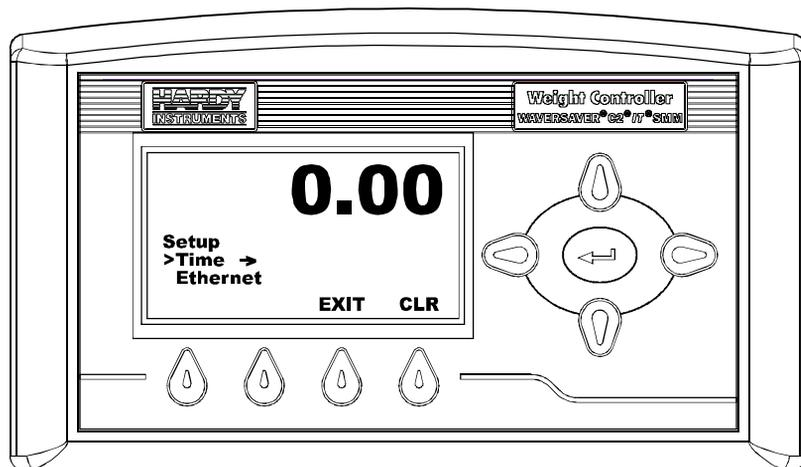

FIG. 96 SETUP MENU/SELECTING TIME
Step 1. Press the Down arrow button until the cursor is in front of Time. (See Fig. 96)